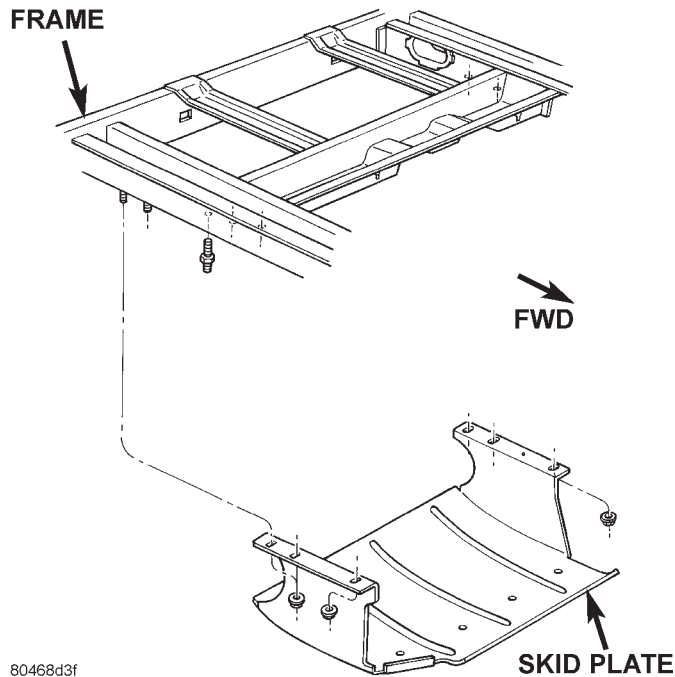

Fig. 6 Fuel Tank Skid Plate
- (1) Remove trailer hitch.
- (2) Position a support under the fuel tank skid plate.
- (3) Remove nuts attaching skid plate to frame rails (Fig. 6).
- (4) Lower skid plate and remove support.